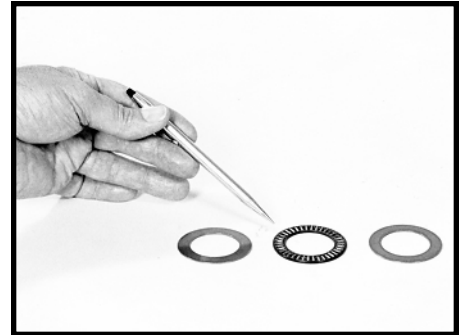

Figure 94
9. Inspect the thrust bearing rollers (12) for any deterioration. Inspect the two thrust washers (11) for brinelling, spalling, or cracks. SEE FIGURE 94. Replace the part if you detect these conditions.